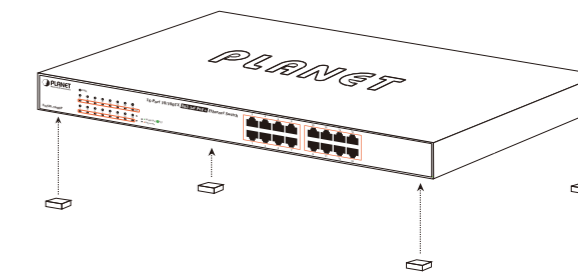

Figure 5-1: Attaching the Rubber Feet to the Switch
Step 1: Attach the rubber feet to the recessed areas on the bottom of the Switch, as shown in Figure 5-1.